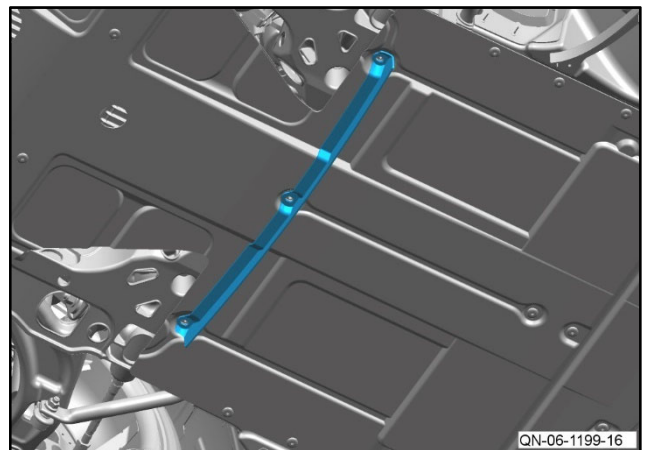

Figure 23
- 23 Remove and discard the air dam (refer to Figure 23).